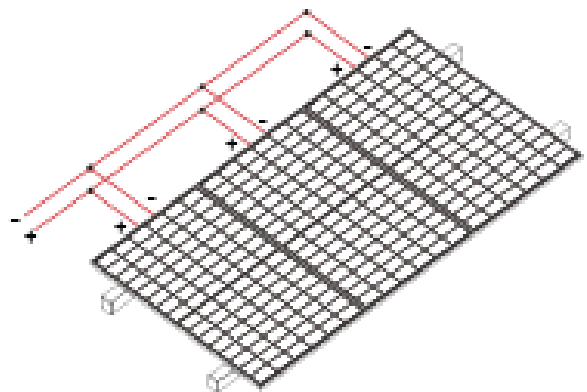

Figure 16: Connection in parallel
- When connected in parallel, the output current of the whole string of modules is equal to the sum of the current of each branch module or module string (the parallel connection mode is shown in Figure 16). Each string of modules shall be equipped with a fuse. The reference formula for the maximum number of modules in parallel connection:  $\text{maximum protective current} / (1.25 * \text{short-circuit current})$ . Please refer to the national or regional or local specifications for details.